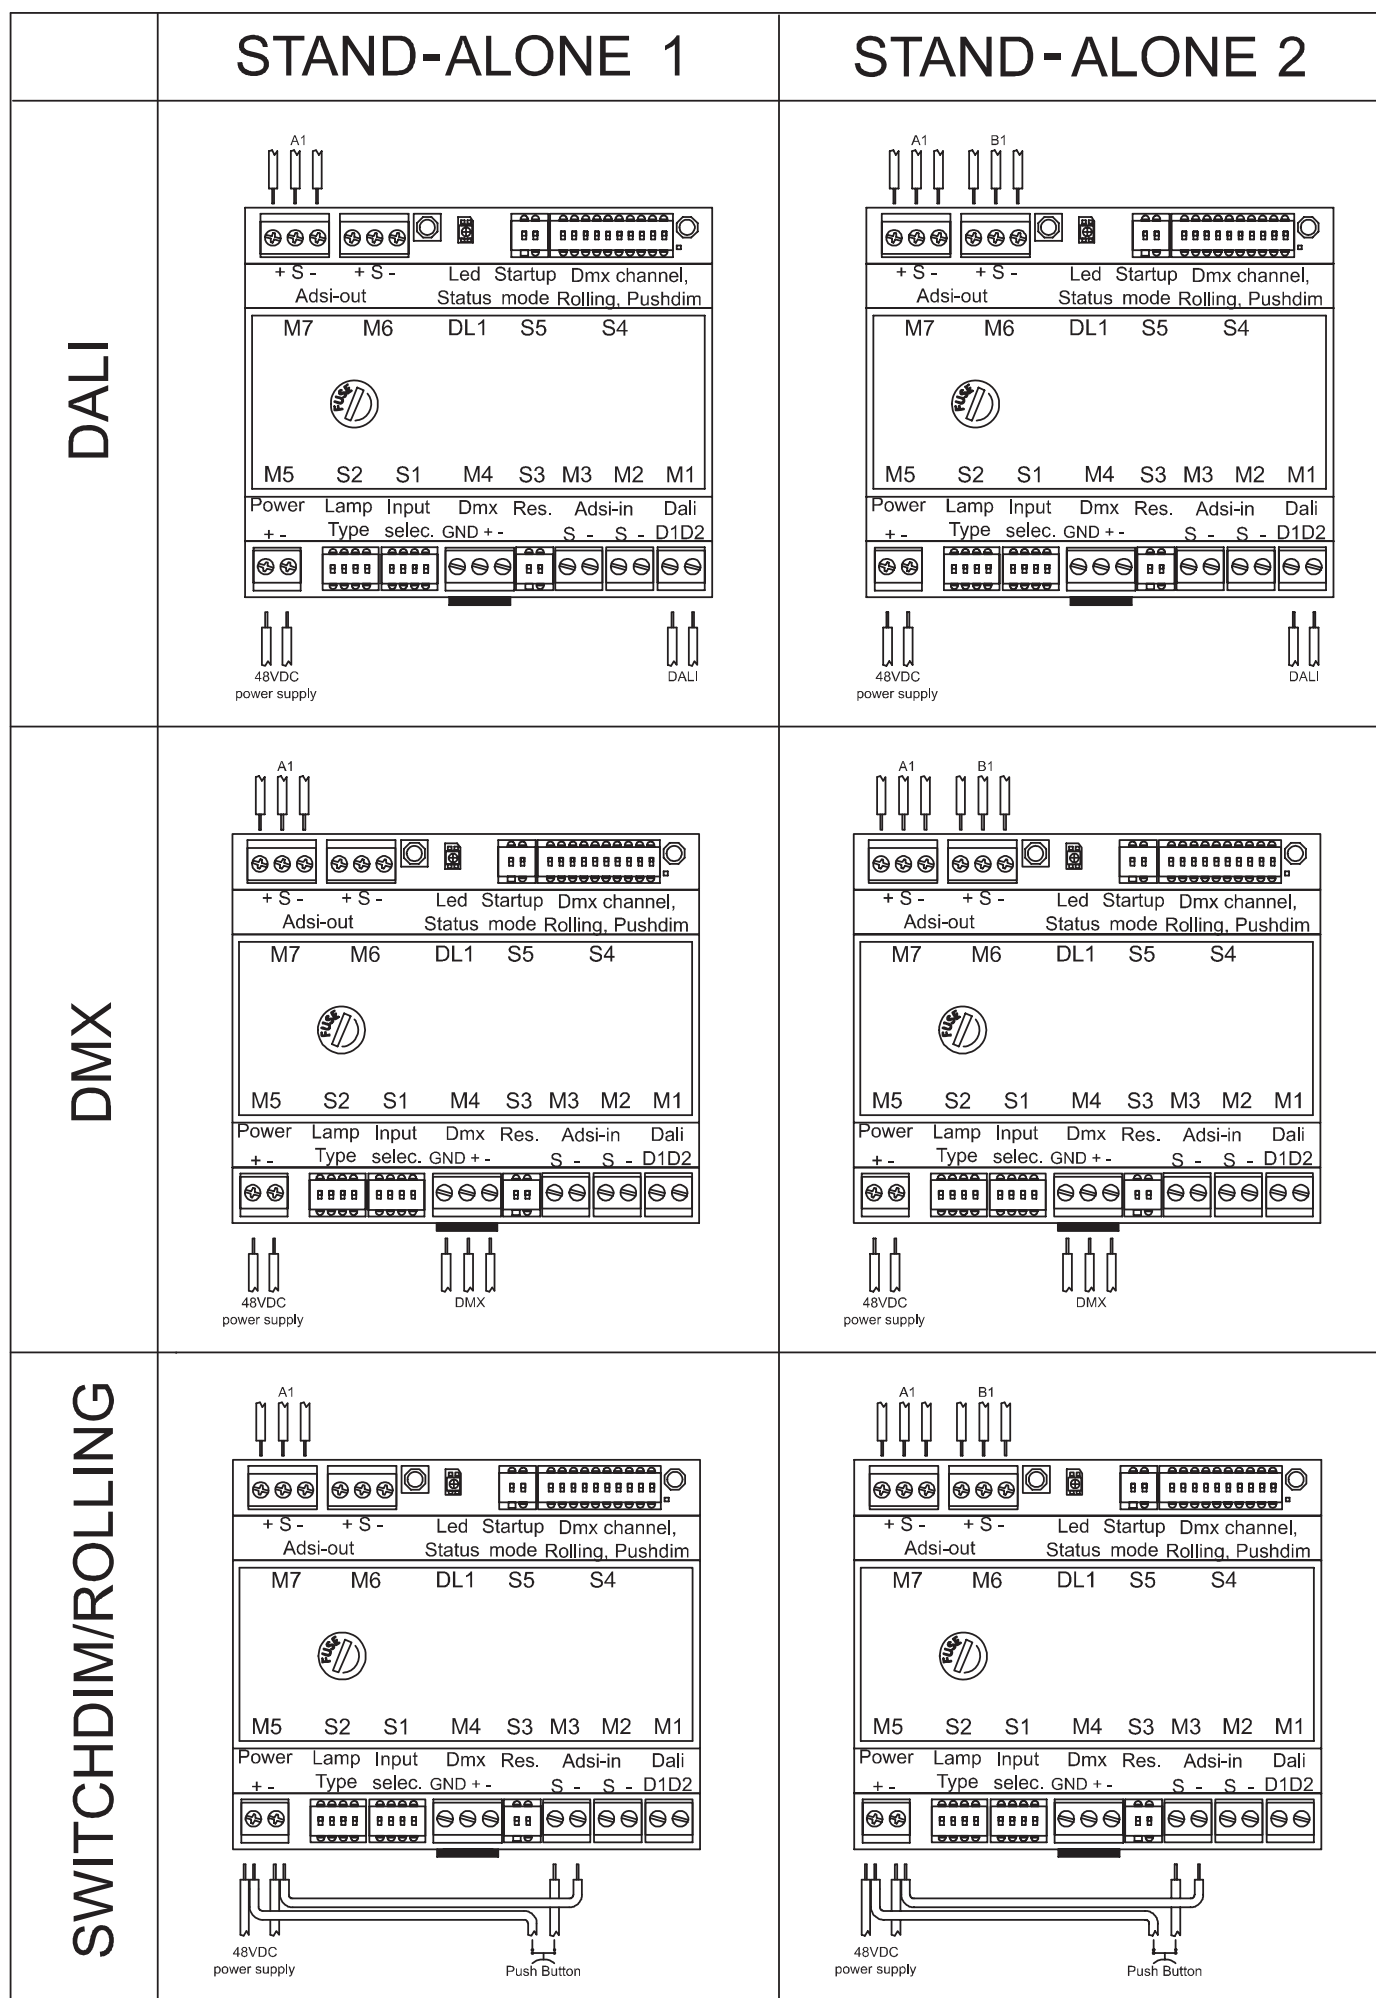

Fig. 3a: Connections of the Nodo-Master for layout “Stand-alone 1” and “Stand-alone 2”
- See Fig. 3a and 3b for the connections to be performed on NODO-MASTER for each of the above mentioned layouts.
Use cables as shown in paragraph 5. Refer to Fig. 3a and 3b.